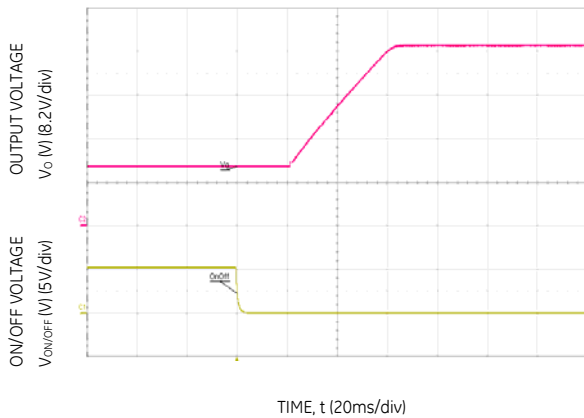

Figure 23. Typical Start-up Using On/Off Voltage ($I_o = I_{o,max}$).
3. Please note because of the specific design of the BOOST topology, the input voltage will present on the output when the input voltage is applied. This will occur even when the unit is in its "OFF" State. When the module is turned ON, the output voltage will start to rise from V_{in} level and not 0V. When turning off, the output will only drop back to V_{in} (if V_{in} is still present). Please refer to Figure 23 for typical start-up waveform using Remote ON/OFF. It shows the V_{in} level present prior to turning the module "ON"
When the module is turned ON, the output voltage will start to rise from Vin level and not 0V. When turning off, the output will only drop back to Vin (if Vin is still present). Please refer to Figure 23 for typical start-up waveform using Remote ON/OFF. it shows the Vin level present prior to turning the module "ON"